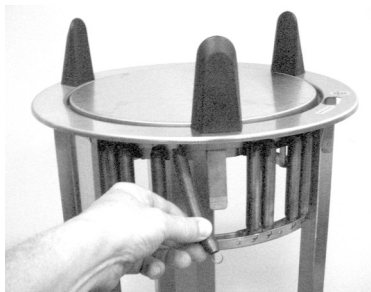

Figure 2
1. Place ten (10) dishes into the silo. Approximately 6" Height.
2. If the dishes are above the top of the plastic dish guide, one or more of the springs must be unhooked. Always unhook the lower end of the spring only (see fig. 2). Leave the unhooked springs hanging for future use. Note, to insure a smooth operation, maintain, as much as possible, an even amount of springs in spring section.